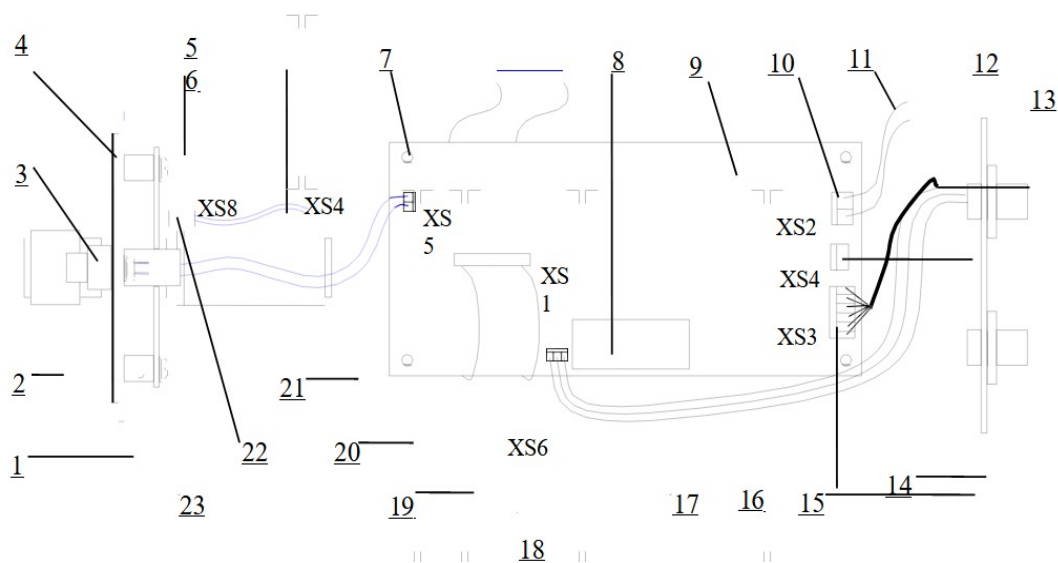

Figure 7-6 GC BCHR-109-TCD current regulator installation sketch (part, plan)
7. Cover the side board of the electrical box. Fasten the two screws at the bottom of the side board of the electrical box with a screwdriver. Installation of the TCD current regulator completes. Please refer to Figure 7-6.